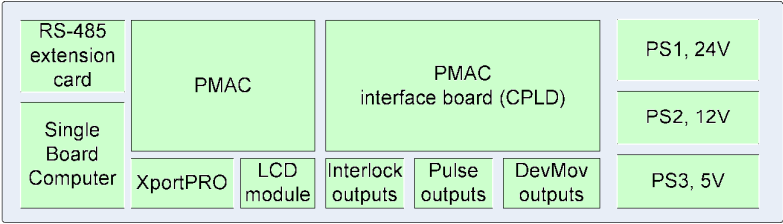

Figure 2: microIOC-M-Box-PMAC block diagram
The microIOC M-Box-PMAC shown in Figure 2 is a microIOC-based product, offering an advanced motion control functionality and control of general-purpose signals. microIOC is a very flexible software (SW) platform, which provides control of all modules and provides a hosting environment for the control-system application (product benefits and features are described in [2]). Motion control is implemented by a PMAC (programmable multi-axis controller) [3] that handles the motion control of up to eight axes. Additionally, a PMAC interface board was developed that provides voltage translation and optical isolation of signals (addressing large distances and possible noisy environments). This interface board is highly programmable (using a Xilinx CPLD [4]) by the means of mapping signals that pass through the board (signals can be inverted, logically combined, etc). The PMAC interface board also extends the available PMAC's per-axis input/output signals to provide control of additional functionality (such as brake control, interlocks, etc.). To provide communication with remote analog module (for position feedback) an RS-485 communication card with optically isolated outputs (addressing large distances and possible noisy environments) was added.